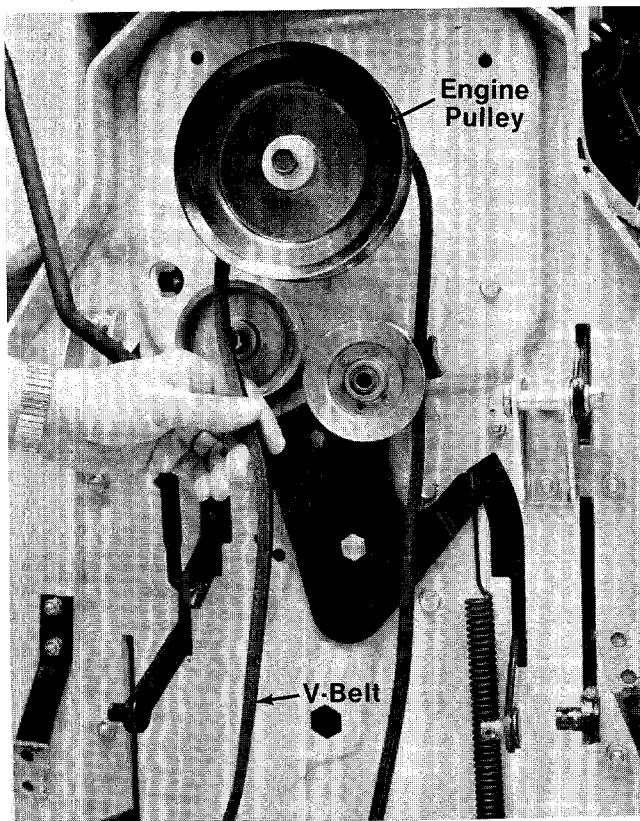

FIGURE 37.
12. Unhook the belt from the engine pulley. (See figure 37.)